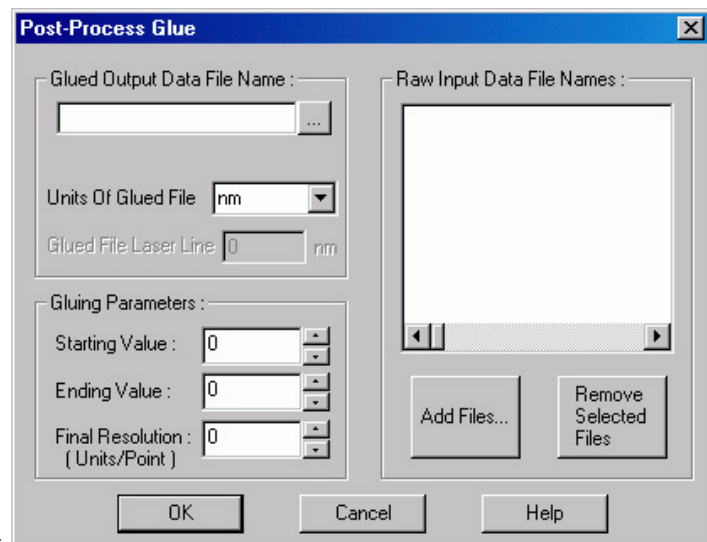

Figure 138. Post-Process Glue dialog
2. From the Process menu select **Glue**. This will open the Post-Process Glue dialog (Figure 138). *For more information, see the online Help for this dialog.*